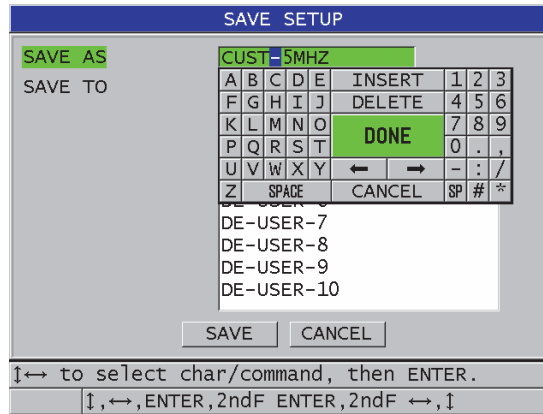

Figure 12-6 Saving the setup
- b) In the **SAVE SETUP** screen, enter the desired custom setup file name (see Figure 12-6 on page 240).